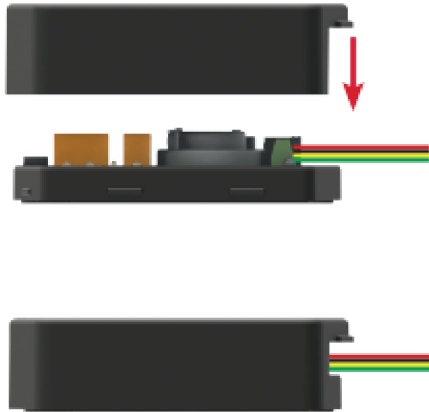

Figure 8
- After the wiring is completed and before replacing the enclosure cover, run the wire(s) towards the bottom/center of the alarm panel to go through the wiring access hole once the enclosure cover is replaced. To replace the cover, align the cover with the base and firmly press together as shown in the diagrams (Fig. 8).
Terminal 3A will monitor power loss, pump overload, input sequence error (if enabled), fire mode indication (if enabled), and redundant off alarm (if enabled) depending on the model of control panel connected to the alarm panel. For remote monitoring of pump run status, connect an external monitoring device to the Oil Detection System control panel terminals C2 and P (Fig. 8; i.e., 4A).
Terminals C2 and P: Connect the Oil Detection System control panel pump run auxiliary contacts, terminals C2 and P, to an external monitoring device (Fig. 8; i.e., 4A).